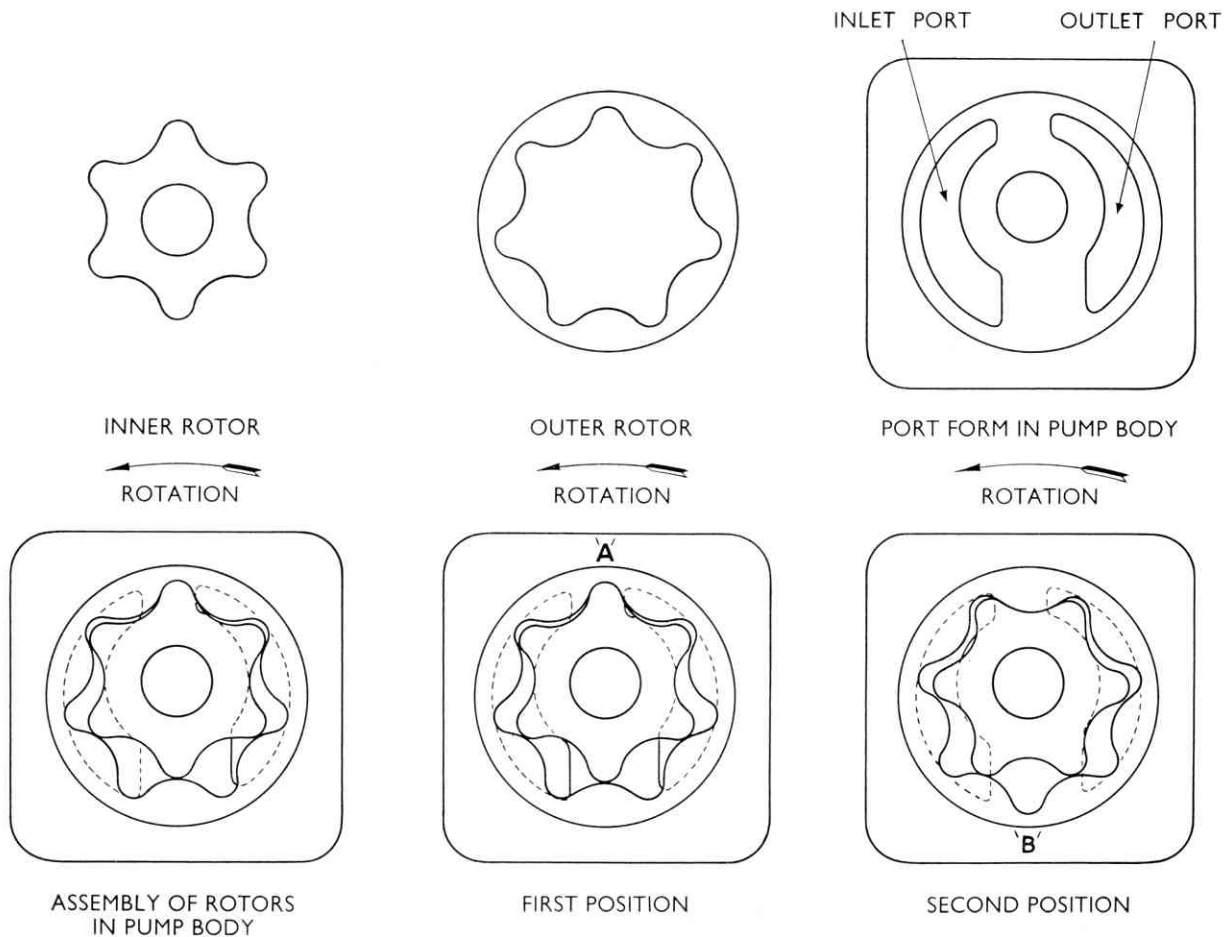

FIG. 104. ASSEMBLY OF ROTORS IN PUMP BODY
The oil from the reservoir enters the pump via a venturi shaped flow director and flows into the intake port. The outer rotor, Fig. 104, has one more tooth space than the inner rotor has teeth. When the pump is driven in the direction indicated the tooth space (A) on the outer rotor has rotated through 180° to the position (B) displacement has occurred through the inner rotor tooth withdrawing from mesh.